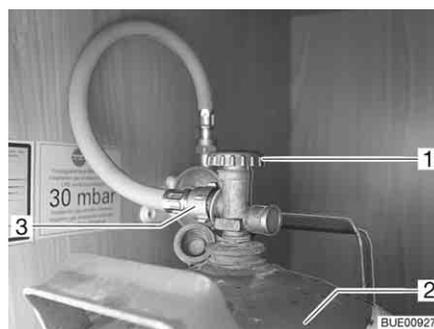

Fig. 88 Gas bottle compartment
- Close the regulator tap (Fig. 88,1) on the gas bottle (Fig. 88,2). Pay attention to the direction of the arrow.
- Unscrew the gas tube (Fig. 88,3) by hand from the gas bottle.